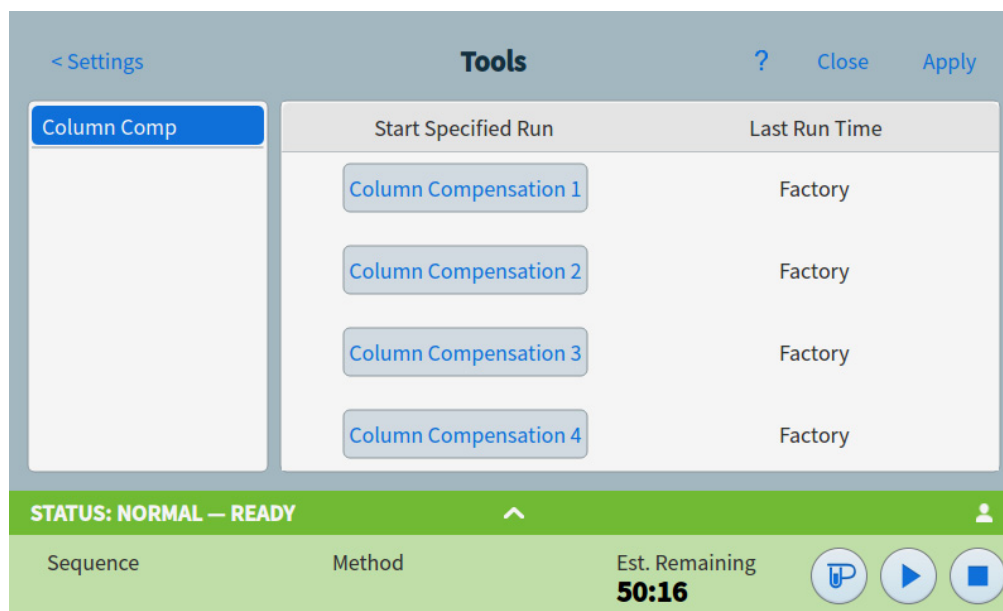

Figure 54. Tools page
The Tools page allows you to perform column compensation runs for the installed columns on the GC. See **Figure 54**.
- 1 With the Tools page displayed, as shown in Figure 54, select the desired **Column Compensation** in the **Start Specified Run** column. The GC performs the column compensation run. No injection occurs as a part of this run.